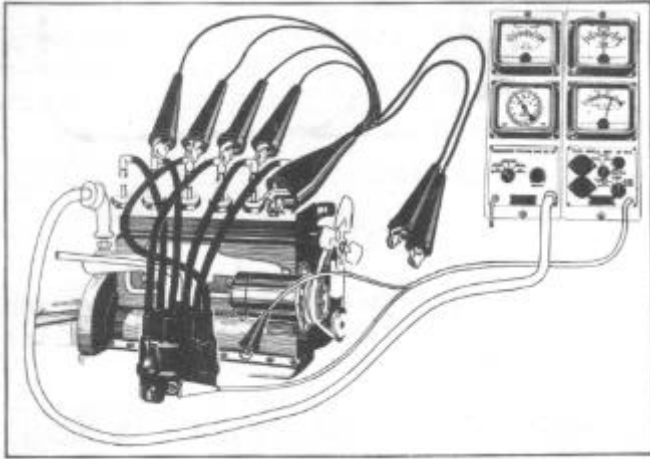

FIGURE 2
2. Connect vacuum gauge hose and cylinder balance tester as shown in Figure 2.